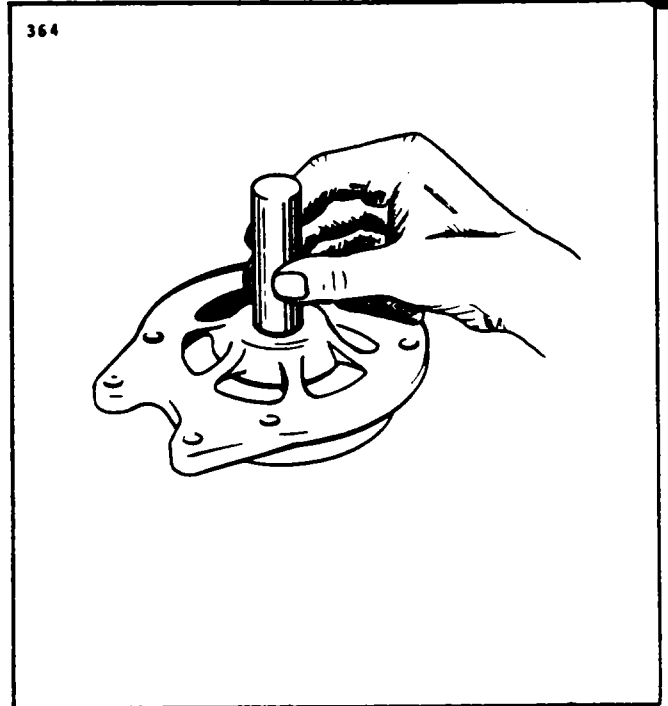

Figure 24-4. Removal of End Head Bearing
5. To remove the slip ring end bearing and grease seal, it will be necessary to have a hook type or impact type bearing puller as shown in Figure 24-4. Do not remove the bearing unless replacement is necessary.